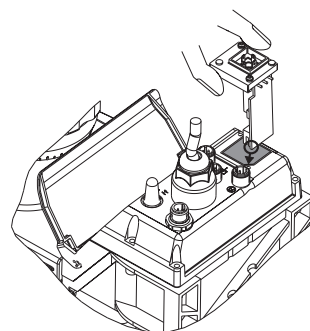

Fig. 20
- ▶ Hold the relay component with your right hand gripping the left and right hand edges of the relay cover, and tilt the front end slightly to the left (see fig. 20)